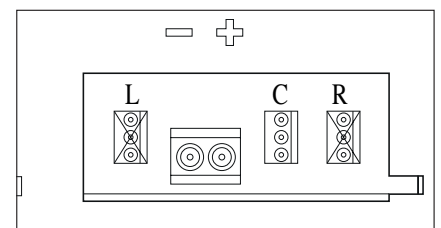
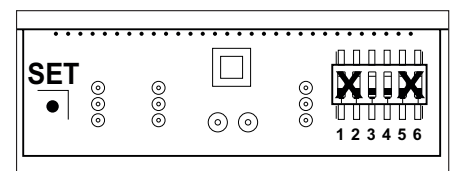

Fig. 1
Fig. 2
**STEP 2:** Single tank has only one plug (centre 'C' plug on the back in Fig. 1) and only position 3 and 4 are needed (see Fig. 2). DIP position 3 is used to set EMPTY and DIP position 4 is used to set FULL.